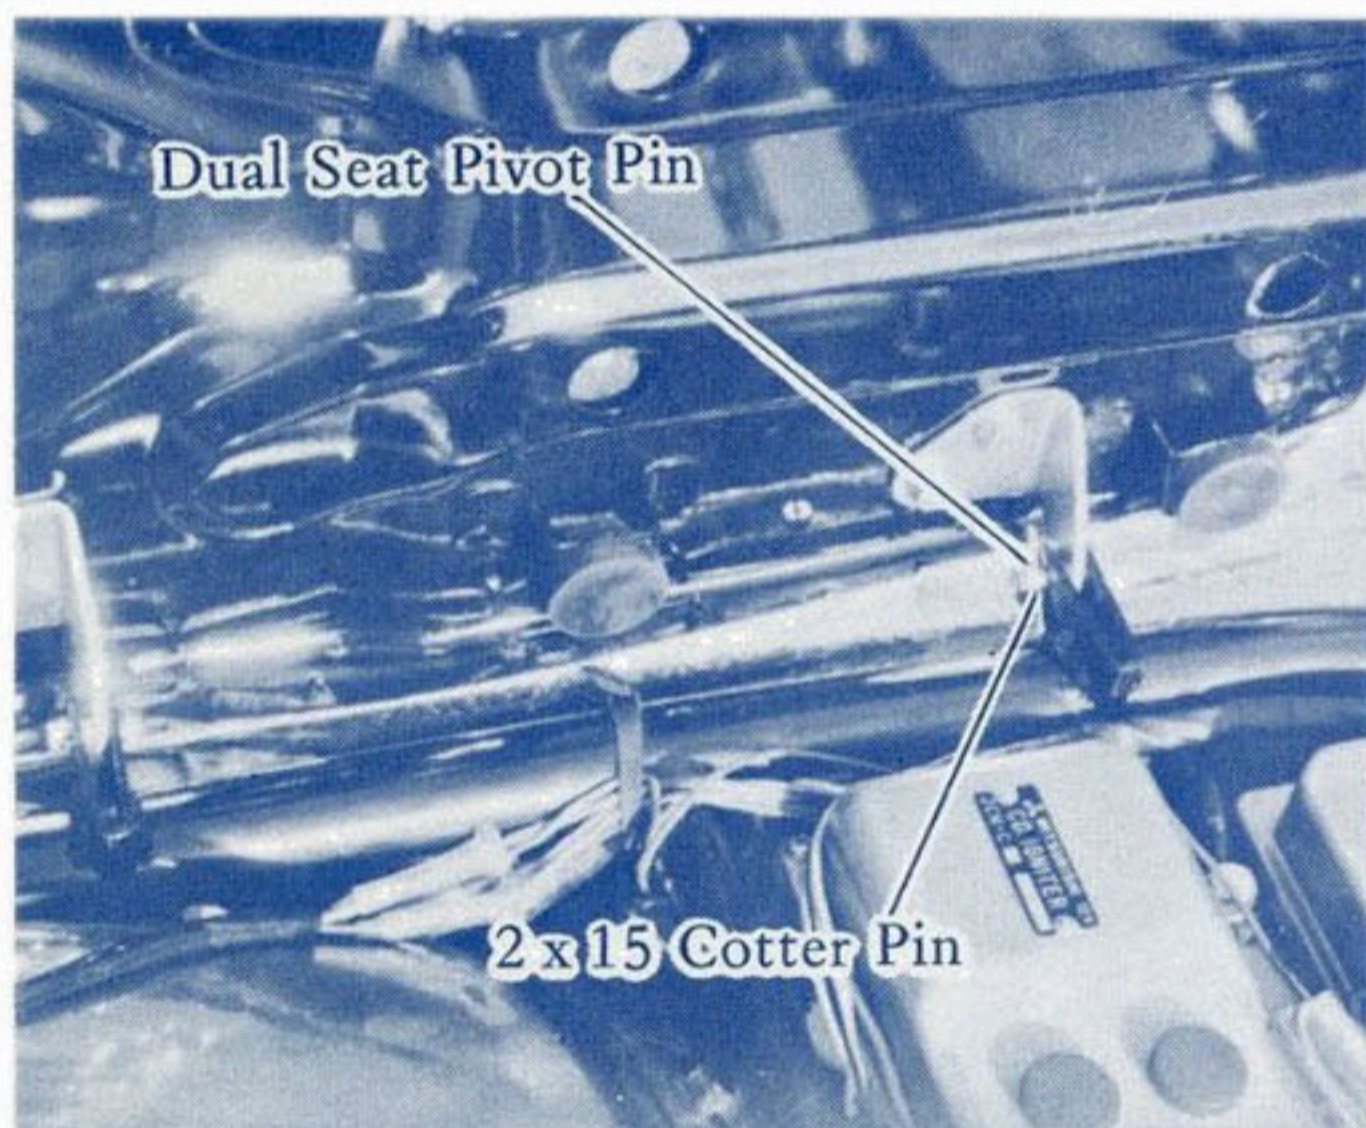

Fig. 22
1. Fit dual seat with dual seat pivot pin and 2 x 15 cotter pin as shown in fig. 22.